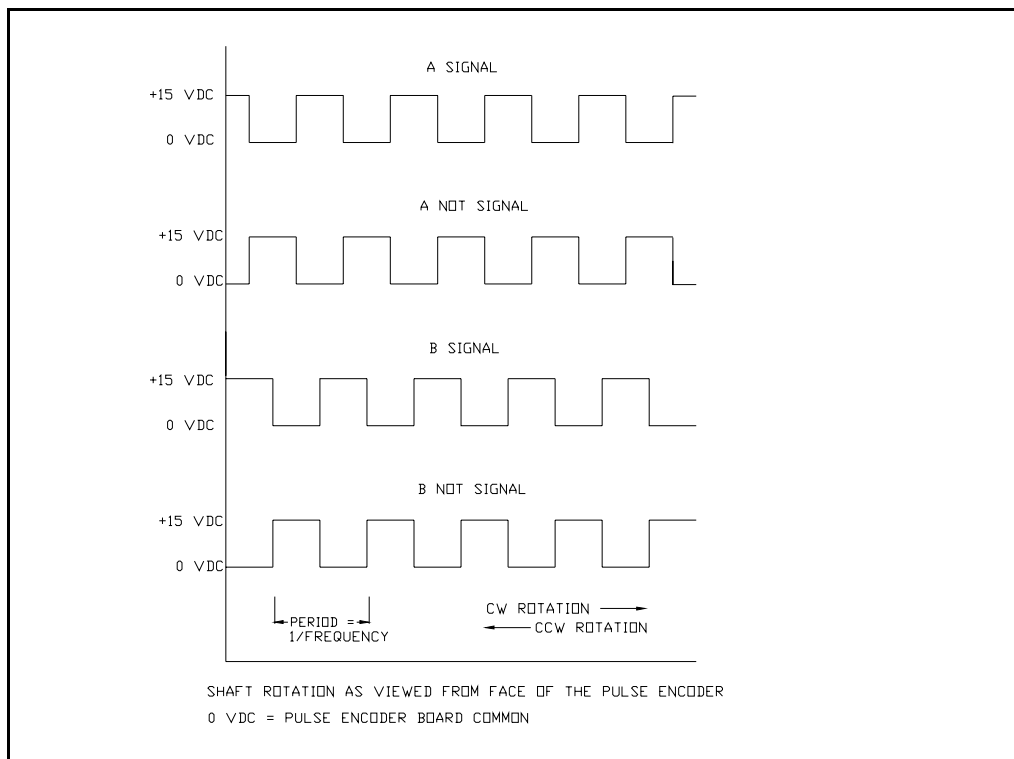

Figure A.2 – Dual-Channel Pulse Encoder Waveform
- A quadrature pulse encoder is used primarily for regenerative and reversing motor applications. For regenerative drives (S6R), use only a dual-channel (quadrature) differential output (A, A not and B, B not) Pulse Encoder. Refer to Figure A.2 for an example waveform from a quadrature pulse encoder.